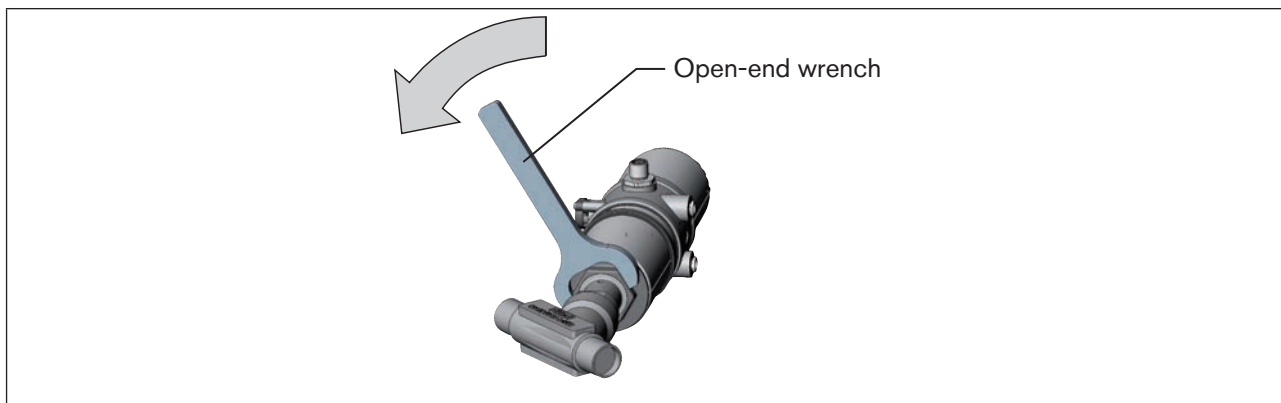

Figure 17: Rotating with open-end wrench
- ▶ Rotate the actuator module counter-clockwise only (see “Figure 17”).